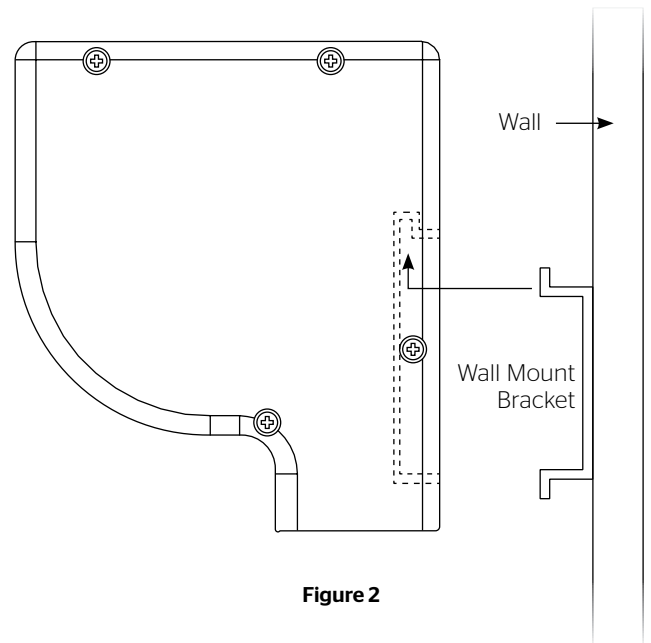

Figure 2
2. Secure the wall mount bracket to the wall at the desired height. The wall mount bracket should be fastened to the wall studs or some reinforcement within the wall. Concrete or brick walls require special fasteners and anchors. Allow at least 3" above the wall mount bracket to be able to position the case on the bracket (Figure 2).
4. Hang the screen case on the wall mount bracket as shown in Figure 2. Be sure the case is fully seated on the bracket.